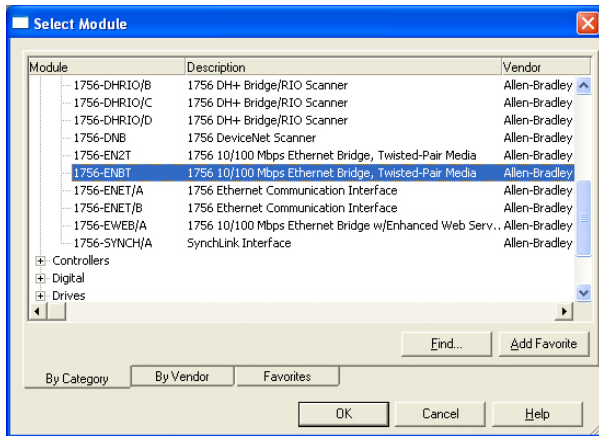

Figure 79: Adding a New Module
- 5) Under “Communications”, select “1756-ENBT/A”, and click OK. Refer to Figure 79.